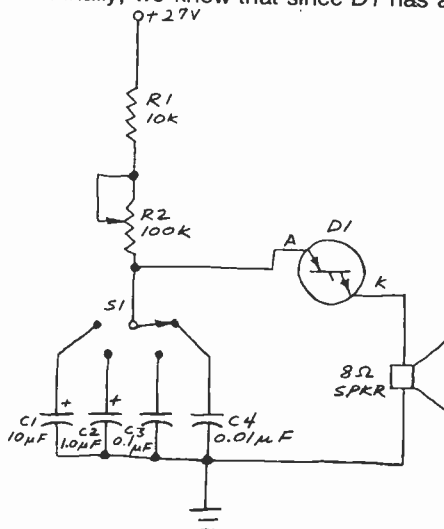
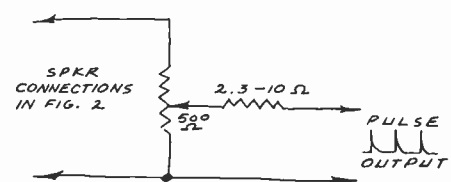

Fig. 2. Audio oscillator.
Fig. 3. Pulse generator output.
**Practical Circuits.** The super-simple circuitry of a four-layer diode relaxation oscillator lends itself to many practical applications. For example, Fig. 2 shows a simple, yet versatile, audio oscillator which can be used to produce audio frequencies ranging from the "pock . . . pock . . . pock" of a metronome to the ear-piercing sound of a 10,000-Hz tone. Switch  $S1$  permits various values of capacitance to be selected. Potentiometer  $R2$  varies the frequency of the circuit by altering the charging rate of the discharge capacitor. Diode  $D1$  can be any common four-layer diode such as the 1N3831 through 1N3846, the 4E series or the M4L series.
The circuit in Fig. 2 can easily be adapted for use as a pulse generator by substituting the simple network in Fig. 3